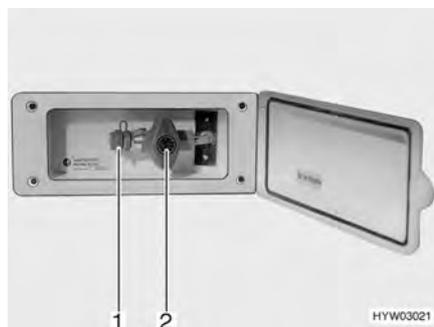

Fig. 96 External gas connection, gas isolator tap closed
The external gas connection (Fig. 96) is located at the rear or to the left or right of the vehicle depending on the model.
- Connect the external gas device to the connection point (Fig. 96,1).
- Open the gas isolator tap (Fig. 96,2).